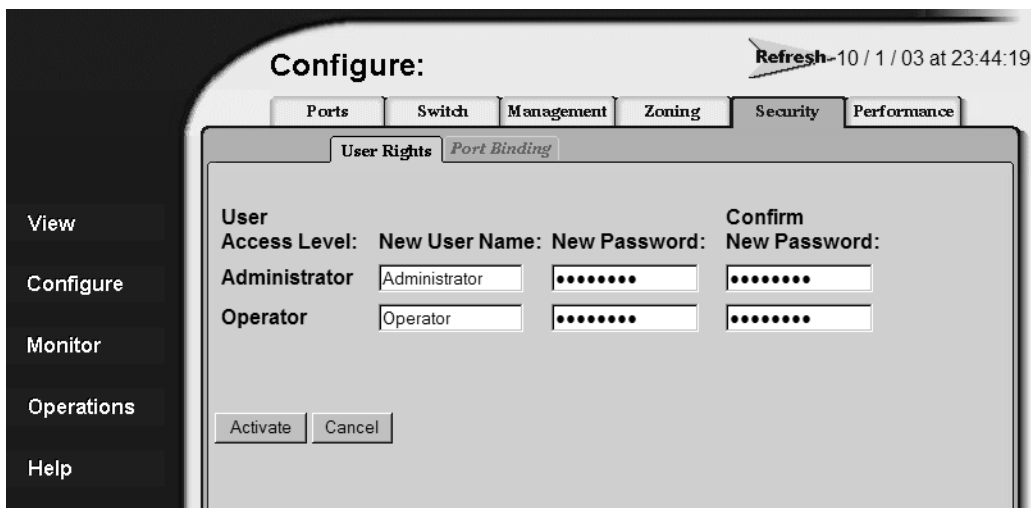

Figure 23: Security page—User Rights tab
1. Choose **Configure > Security** to display the **User Rights** tab (Figure 23).